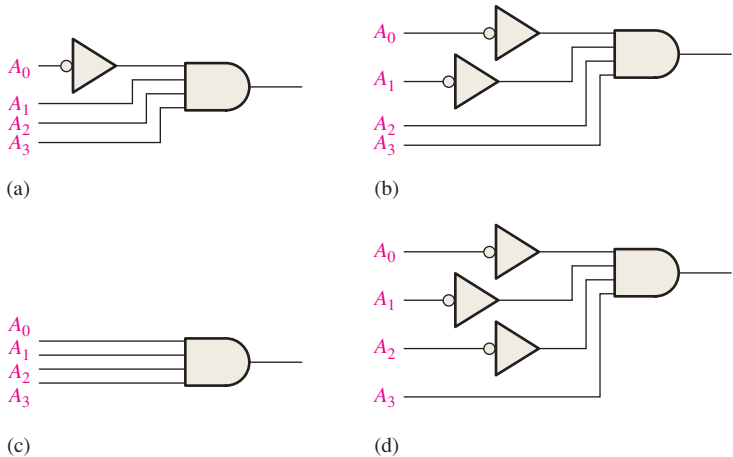

FIGURE 6–75
16. When a LOW is on the output of each of the decoding gates in Figure 6–75, what is the binary code appearing on the inputs? The MSB is A_3 .